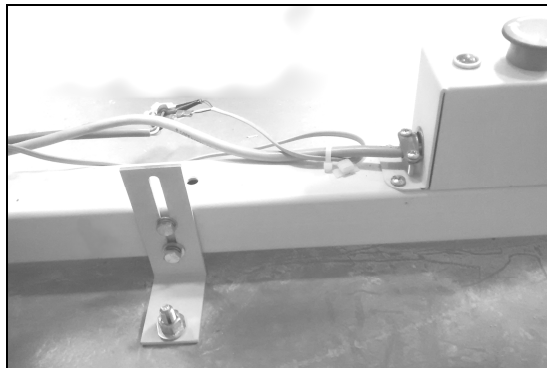

Figure 3: Front Floor Anchor Bracket (rear view)
- a. Locate and unpack the bag containing the three (3) floor brackets, two (2) bracket covers and hardware included with the table.
- b. Attach one bracket to the rear of the front frame rail with two ¼"-20 bolts, lock washer and flat washer as shown in figure 3. With the base of the bracket flush with the floor, tighten the bolts.